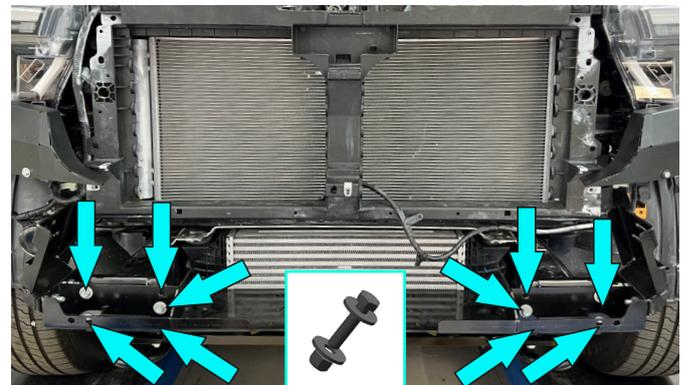

Fig.23
23. Install winch bracket (item 21). Fix it on the frame using OE bolts, bolts M8x30, nuts M8, washers 8 (item D, P, J) (fig.23).